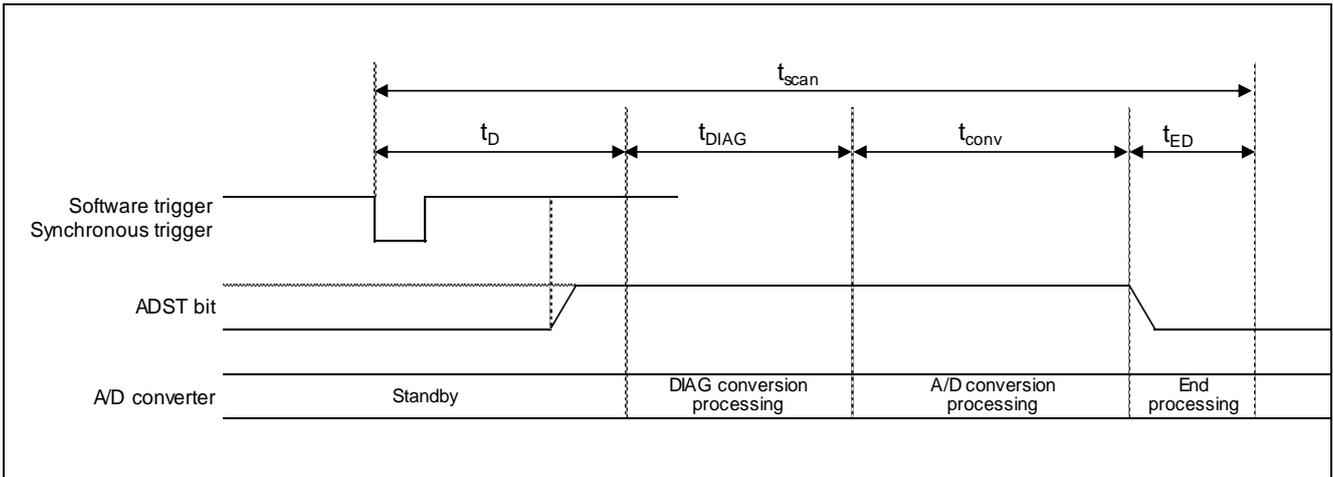
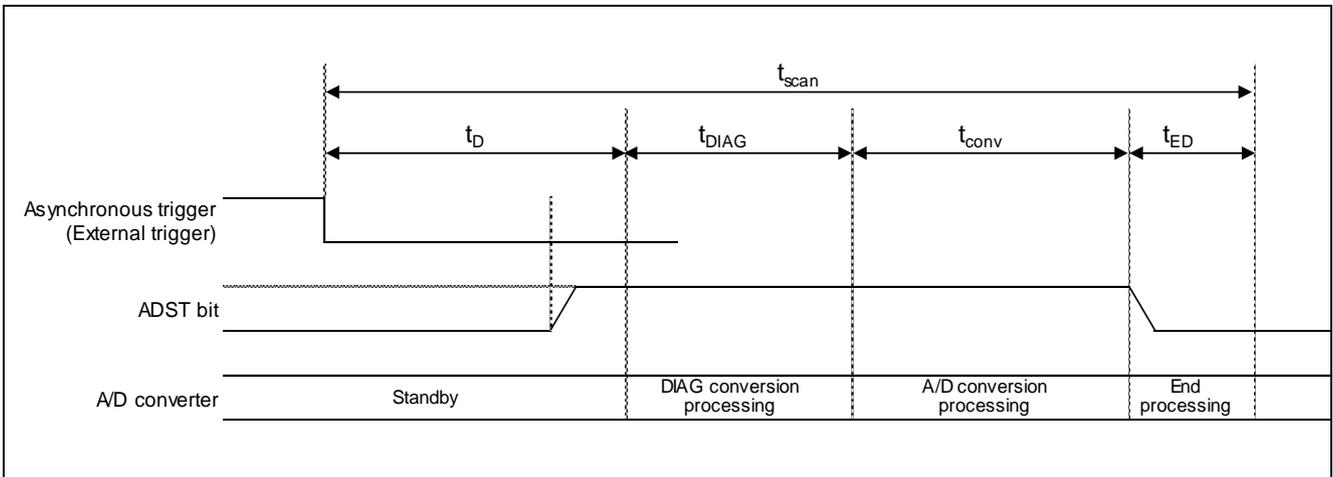

Figure 3.4 RX231 Group Scan Conversion Timing (Software Activation and Synchronous Trigger Activation)
Figure 3.5 RX231 Group Scan Conversion Timing (Asynchronous Trigger Activation)
Figure 3.4 shows scan conversion timing (software activation and synchronous trigger activation) on the RX231 Group.
Figure 3.5 shows scan conversion timing (asynchronous trigger activation) on the RX231 Group.
- Note 1. Refer to Figure 3.4 and Figure 3.5 for the timing of t_D , t_{DIAG} , t_{CONV} , and t_{ED} .